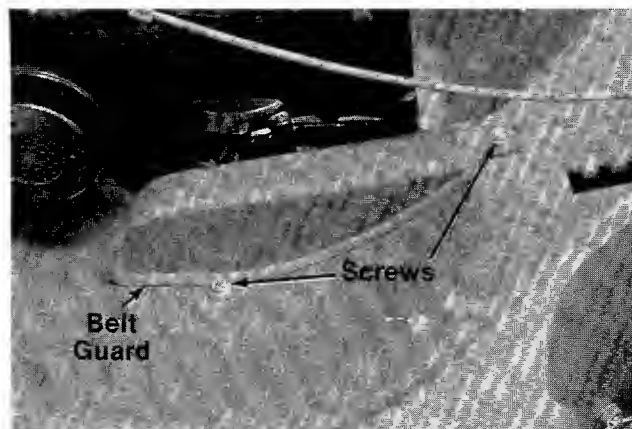

FIGURE 25.
3. Remove the two screws which hold the belt guard to the deck. See figure 25.